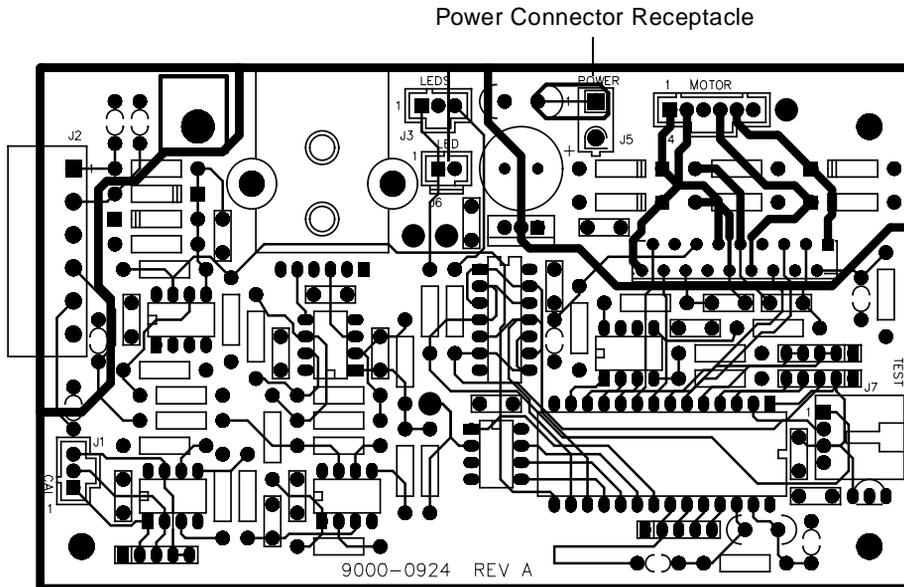

Figure 5-4 Power Connector Receptacle on Control Board Assembly
3. Remove the power connector from the power connector receptacle on the control board, as shown in Figure 5-4.